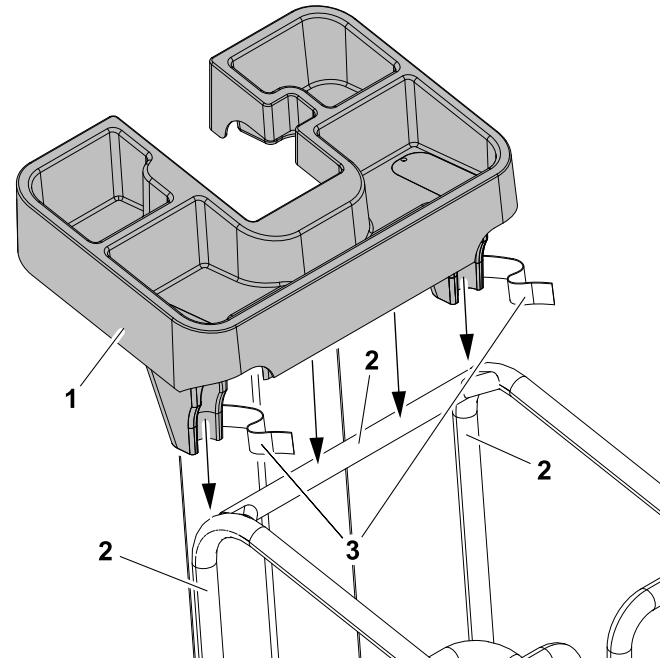

Figure 3-12. Tool Tray Installation
- a. Lower tray (1) onto the upper platform rails (2) at the front of the platform. Be certain the top cross rail is inserted into the rail slot under the rear of the tray and resting on the mast carry handle.
- b. Once tray (1) is seated properly on the rails (2), secure to the front side rails using the two tray straps (3). Check that the tray is secure to the platform rails.
- c. To remove, release the two tray straps (3) that secure the tray (1) to the platform rails (2) and lift the tray upward off of the platform rails. (See Figure 3-12.)